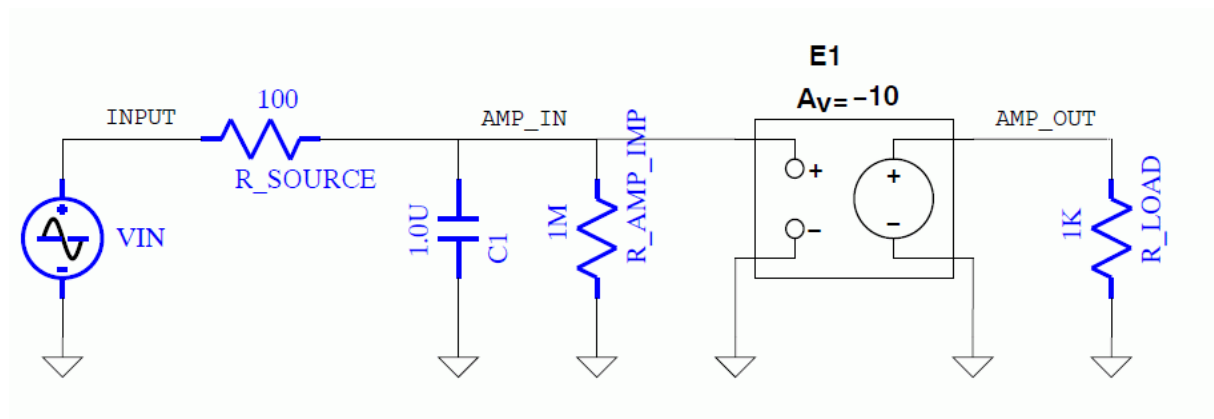

Figure 22.1: Example Circuit 1
alphanumeric identifiers to each circuit node, the assignment of component identifiers to each circuit device, and the definition of the significant parameters for each device. For example, the circuit description below shows the equivalent input file for the circuit shown in Fig. 22.1.
**Subcircuits** In some applications, describing a device by embedding the required elements in the main circuit file, as is done for the amplifier in Fig. 22.1, is not desirable. A hierarchical approach may be taken by using subcircuits. An example of a subcircuit statement is shown in the second circuit file: